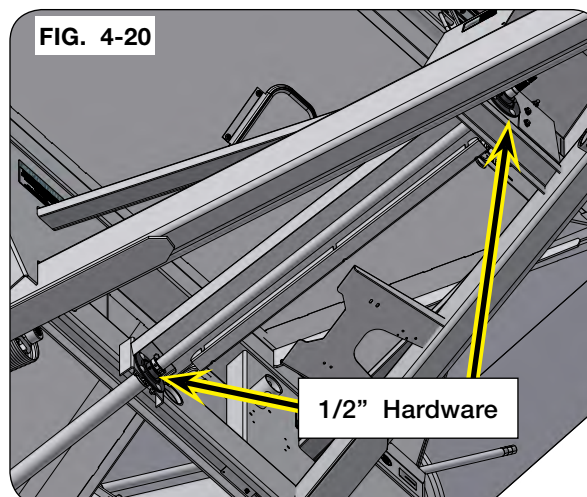

FIG. 4-20
2. Loosen the setscrews (9399-071) on two flangette bearings (9003920) (Fig. 4-20).
3. Remove the 1/2" carriage bolts (9388-103), flange nuts (9394-010), and lock washers (9404-025) holding the flangette bearings. Keep hardware. (Fig. 4-20).